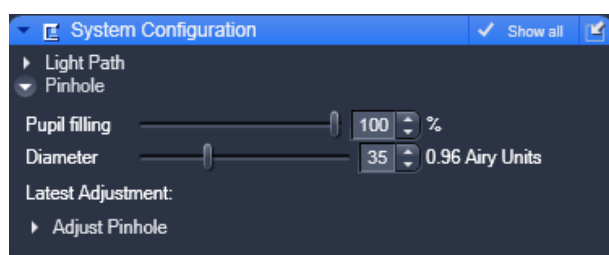

Fig. 35 Pinhole configuration panel
- Click on the **Pinhole** tab to open the **Pinhole configuration** panel (see Fig. 35). Click on any other register to leave the panel.
In the **Pinhole** configuration panel you can set the pinhole diameter of the LSM using the Diameter slider, scroll arrows or the input box (Fig. 35). The display of the input box gives the diameter in μm . The Pinhole diameter in Airy units is automatically calculated and displayed beside the input box.
An optional iris in the excitation beam allows you to enlarge the size of the confocal volume by decreasing the pupil filling. If present a **Pupil filling** slider and input box will be available in the Pinhole menu (Fig. 35). You can enter a value by typing, using the arrows or the slider. The Airy units displayed right of the Diameter slider and input box will be updated automatically.